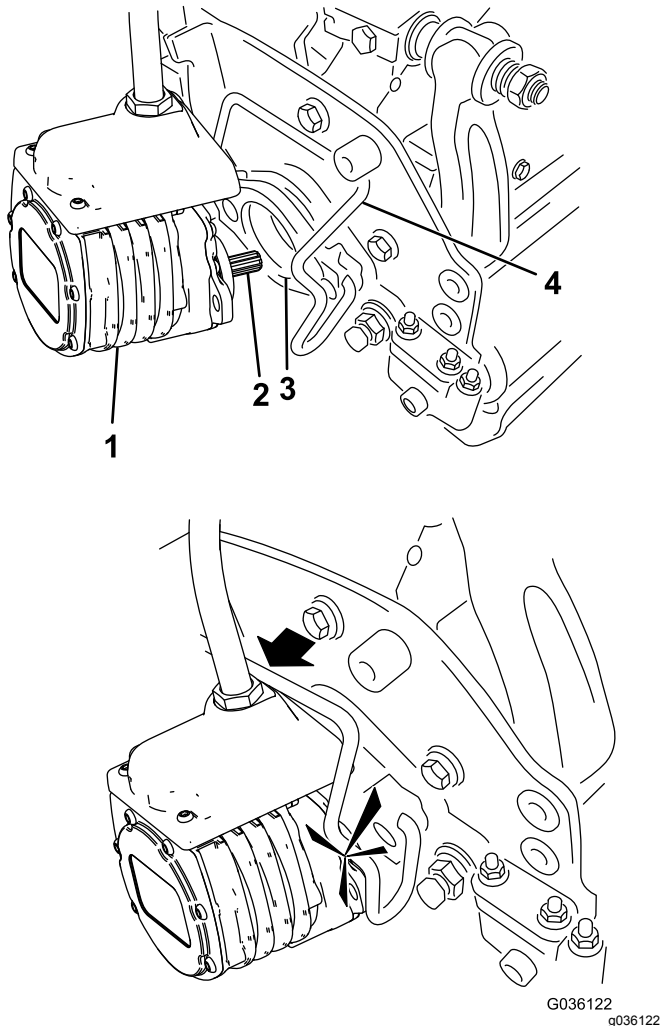

Figure 50
- Coat the spline shaft of the cutting unit motor with clean grease (Figure 50).
- Insert the motor into the left side of the cutting unit (as viewed from the operator's position) and pull the motor retaining bar on the cutting unit toward the motor until you hear a click from both sides of the motor (Figure 50).